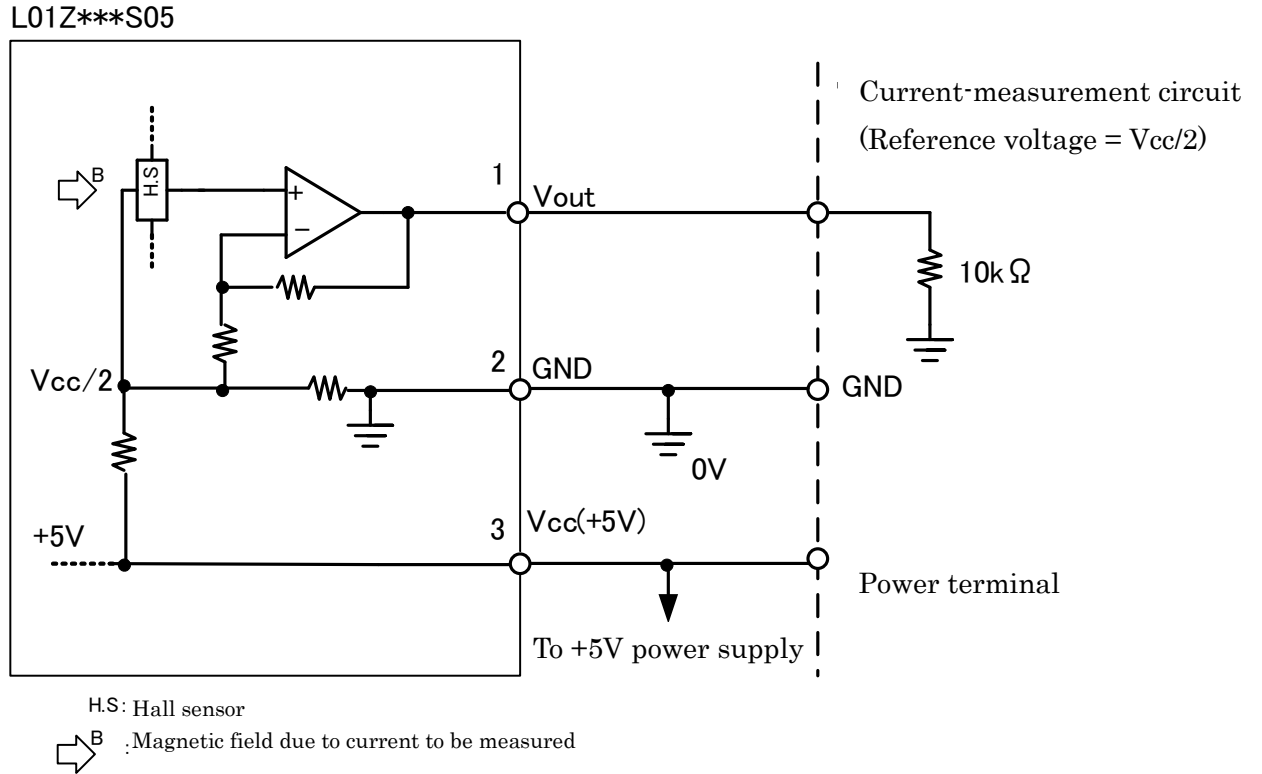

Fig. 2: Standard circuit
□Description of Fig. 2
This current sensor converts a measured current into a voltage. The output voltage V_{out} (1) in Fig. 2 is based on V_{ref} , which is half the power-supply voltage V_{cc} , i.e., $V_{ref} = \frac{V_{cc}}{2}$. When the current to be measured is 0, V_{out} (1) = $V_{cc}/2$. When the current to be measured is in the plus direction, V_{out} (1) becomes $(V_{cc}/2) + (\text{voltage converted from the measured current})$. When the current to be measured is in the minus direction, V_{out} (1) becomes $(V_{cc}/2) - (\text{voltage converted from the measured current})$.
10 k Ω in Fig. 2 is the equivalent resistance of the receiving circuit of the current sensor output Vout (1). The load resistance between the Vout terminal (1) and the GND potential (0V) is the standard 10 k Ω .